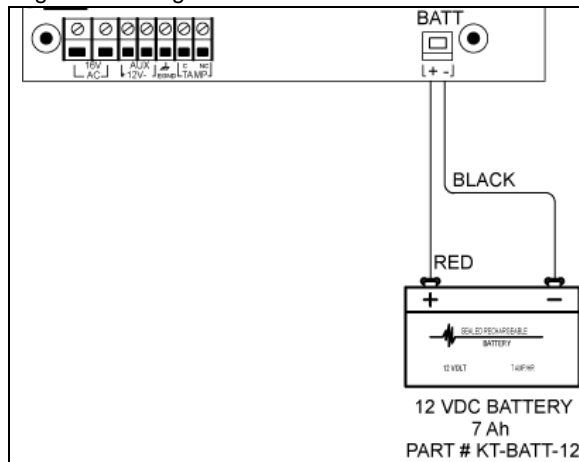

Figure 8. Connecting the Battery
2. To connect the board to the battery, connect the battery to the RED and BLACK leads on the KT-NCC as illustrated in Figure 8 on Page 14 below.